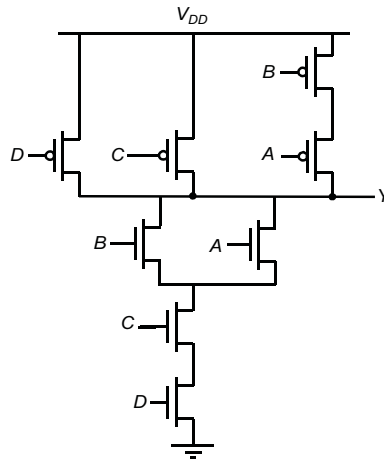

Figure 6.1 CMOS combinational logic gate.
3. Consider the circuit of Figure 6.1.